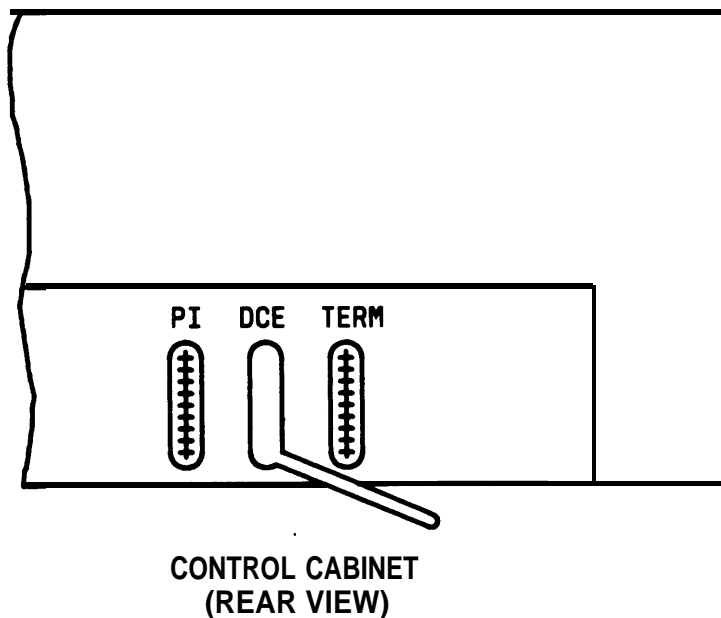

Figure 48. SMDR Connection to Control Cabinet
1. For the direct access method (System 75 XE only), connect EIA cord to DCE connector at rear of control cabinet (see Figure 48). For other methods, see the *AT&T System 75—Wiring*, 555-200-111.